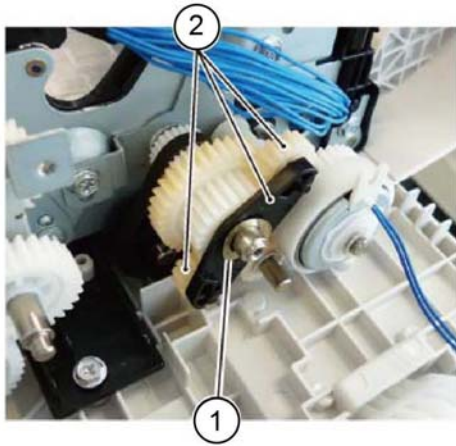

Figure 2 Idler gear bracket removal
9. Remove the idler gear bracket, **Figure 2**:
- a. Remove the washer (1).
- b. Remove two gears, then the idler gear bracket (2).